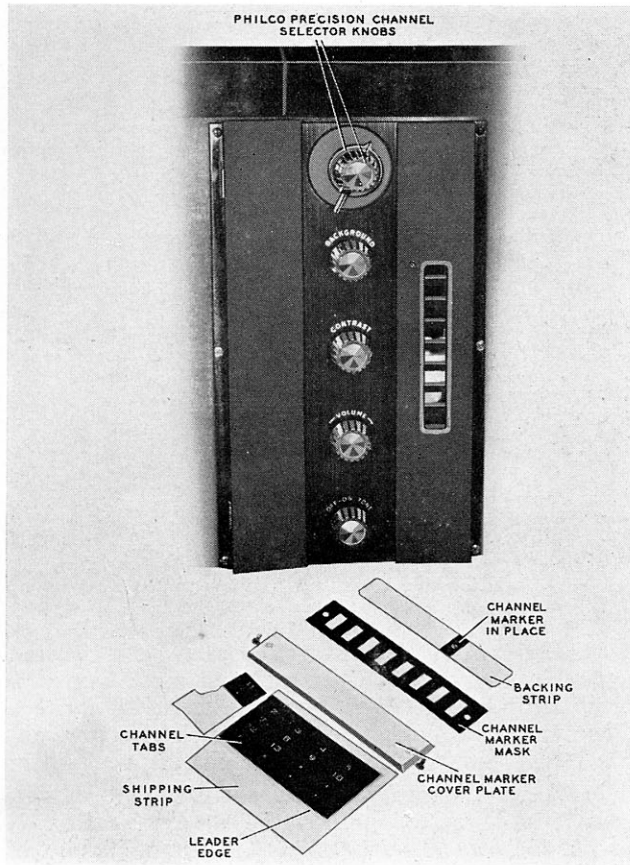

FIGURE 4. Channel-Marker Assembly TP-3651
13. Open the control panel door, remove the two screws, and take off the channel-marker assembly. See figure 4.